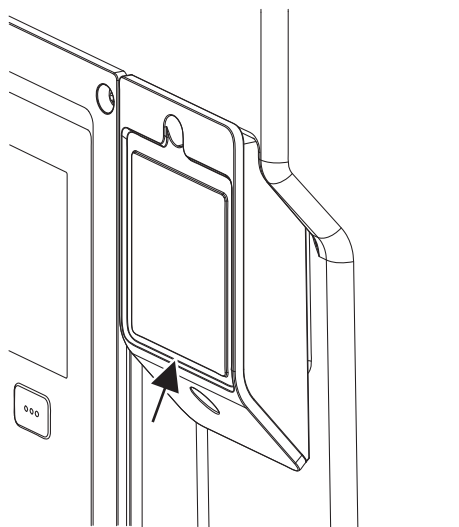

Fig. 32: Cover for Wilo-Smart Connect module BT
1. Loosen the screw of the Wilo-Smart Connect module cover (Fig. 32) and open the cover.
Due to its design, the Wilo-Smart Connect module BT can only be plugged in in one alignment. There is no further fixing of the module itself. The Wilo-Smart Connect module cover (Fig. 32) on the upper part of the electronic module holds the module firmly in the interface.